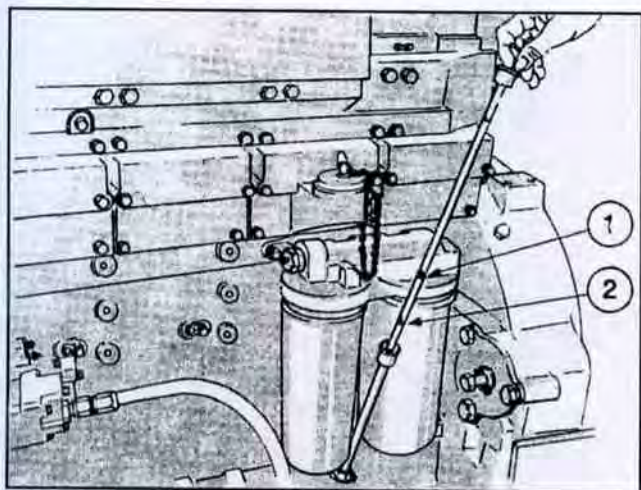

Fig. 1-8. (OM1005L). Checking engine oil level — KT/KTA19
A dipstick oil gauge is located on the side of the engine, Fig. 1-8. The dipstick has an "H" (high) (1) and "L" (low) (2) level mark to indicate lubricating oil supply. The dipstick must be kept with the oil pan, or engine, with which it was originally supplied. Cummins oil pans differ in capacity with different type installations and oil pan part numbers. Check the dipstick calibration. If in doubt, your Cummins